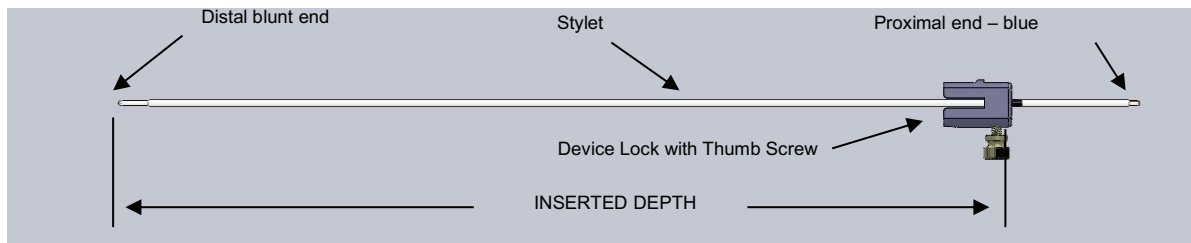

Figure 17: Stylet and Device Lock
4. Position the Device Lock on the depth mark on the Stylet and tighten the white thumb screw. The inserted depth of the Stylet is defined by the proximal side face of the Device Lock to the distal tip of the Stylet. Confirm the length using the Ruler. **See Figure 17.**
5. Set the inserted depth on the device from the distal end of the device to the top of the Device Lock using the Ruler. Lock the device to the Device Lock with the white thumb screw. Verify the measured inserted depth. Alternately, the bottom of the Depth Stop can be located at the appropriate position and locked into place on the device with the red thumb screw prior to inserting the device into the Device Lock. **See Figures 17 and 18 for similar placement of the Depth Stop or Device Lock onto Stylet.**